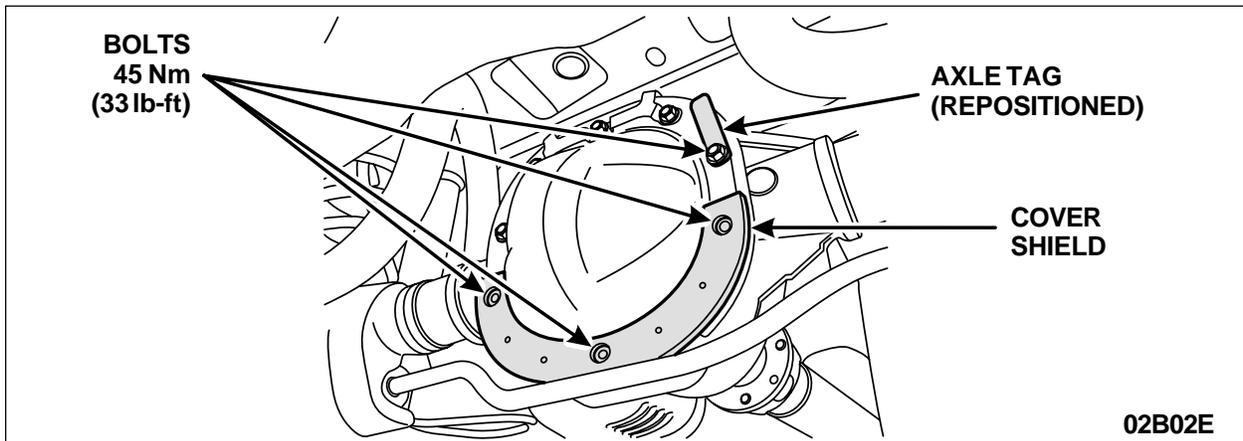

FIGURE 5
Reposition the axle and/or fluid identification tag as necessary. Hand-tighten the bolt(s) at this time. See Figure 5.
-  Remove and **discard** the three (3) differential cover bolts located at the 4, 6 and 8 o'clock positions. Position the differential cover shield and press into place. The cover should fit snug over the existing bolts. Install the three (3) **new** bolts. Tighten all loosened or removed bolts to 45 Nm (33 lb-ft). See Figure 5. Be sure to also tighten the axle tag bolt(s) to specification.